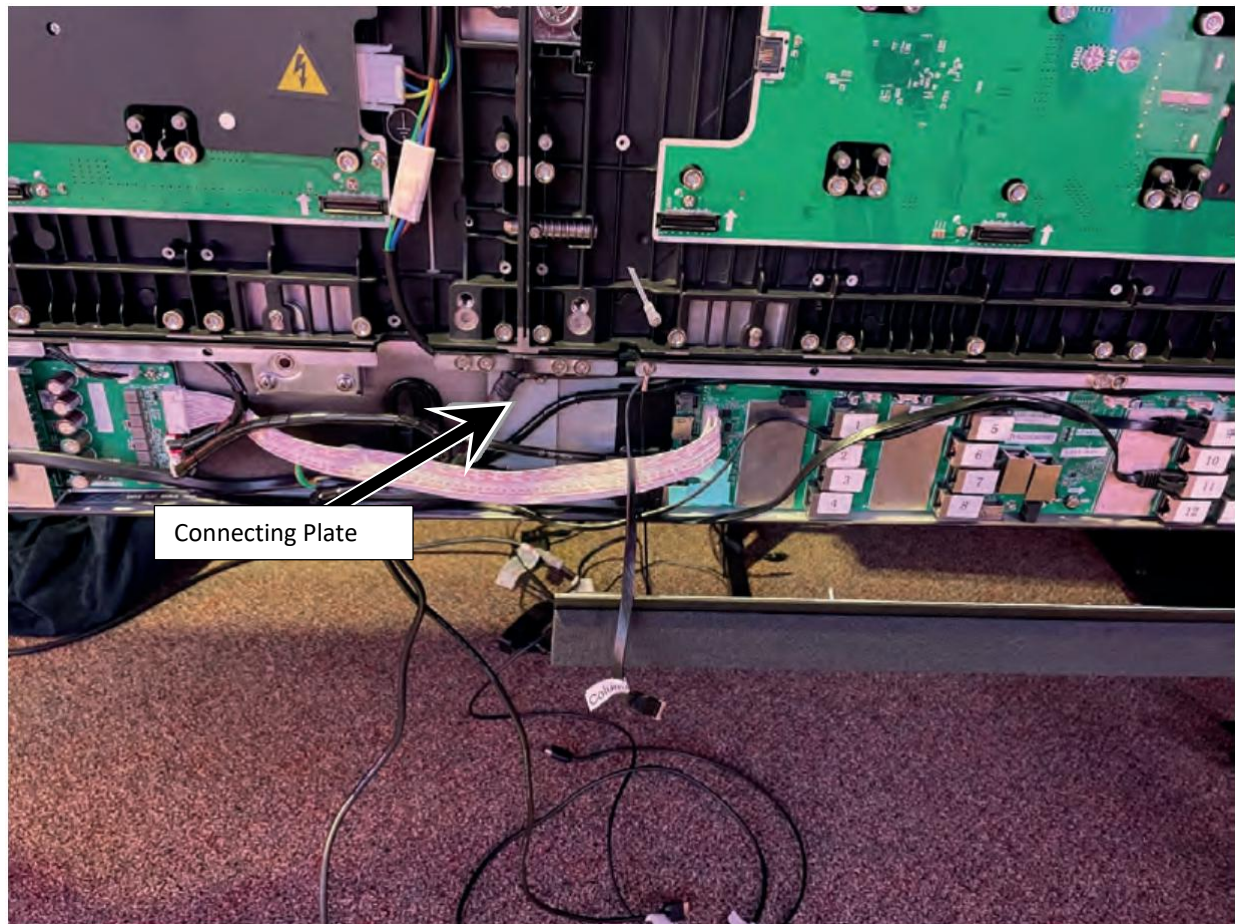

Figure 15
2. Mount the Lower Frame Sound Bar in place beneath the lowerest row of panels as shown. The Sound Bar locks in place using rotary hook locks. See Figure 15 for proper mounting example.
3. Mount the Lower Frame Sound Bar in place beneath the lowerest row of panels as shown. The Sound Bar locks in place using rotary hook locks. See Figure 15 for proper mounting example.